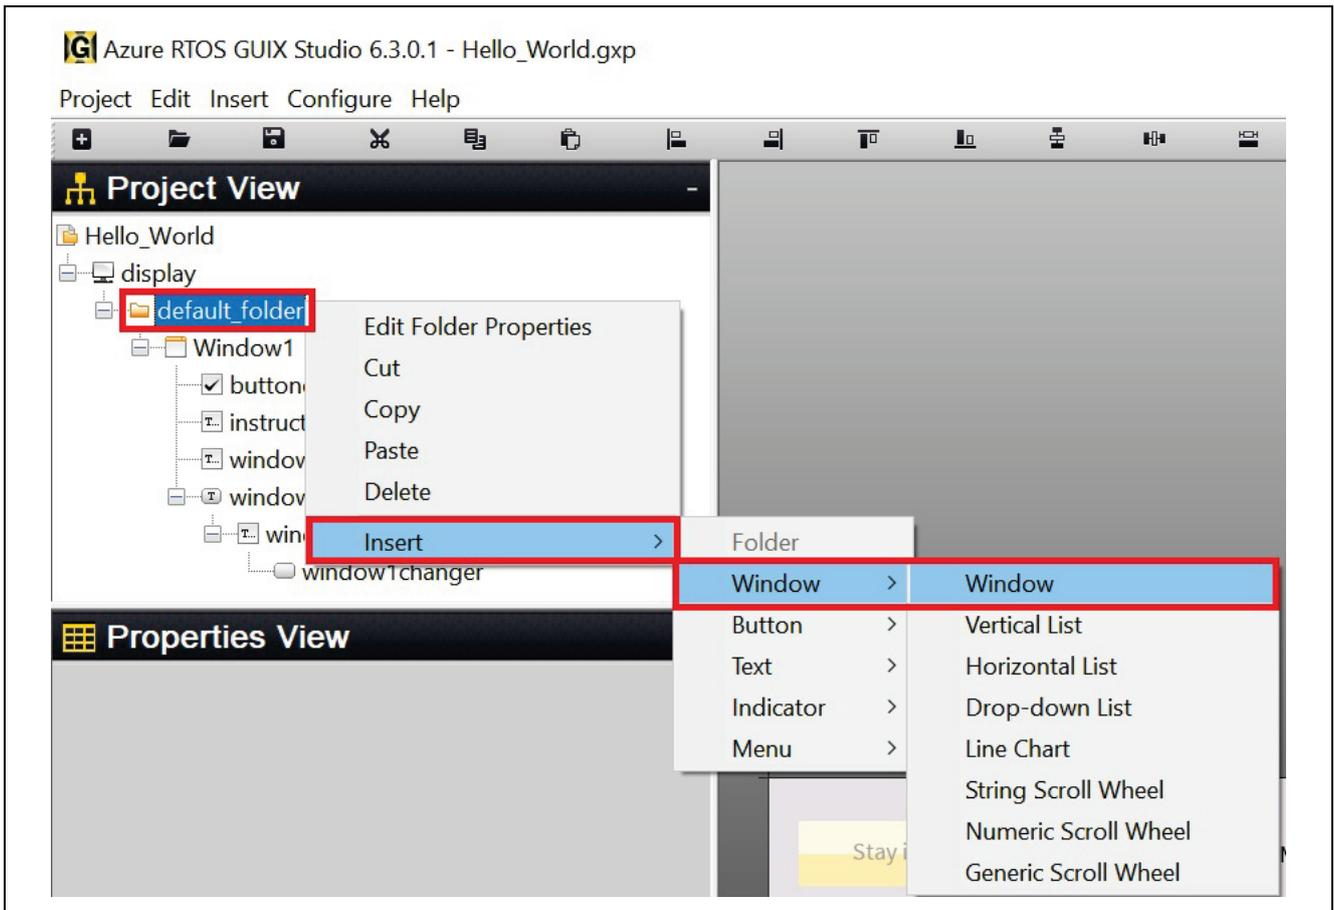

Figure 63. Insert Window2
23. Add another window to the GUIX Studio project. Right click on **default_folder** in the **Project View** and click **Insert > Window > Window** as shown in **Figure 63**.